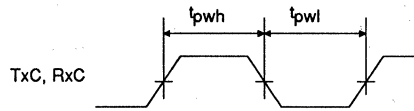

Figure 2. Clock Signal Timing
9. Duty cycle is $(t_{pwh}/(t_{pwh} + t_{pwl})) * 100\%$. See Figure 2.